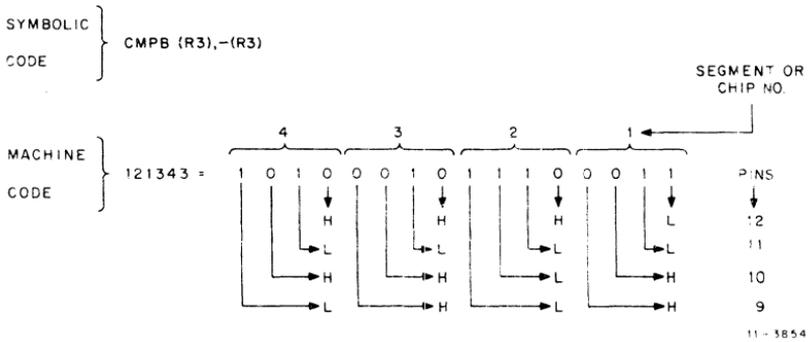

Figure 3-1 MRV11-AA Data Format
**3.3.2.2 Word Format** – Each PROM word, when read by the processor, is stored in four 4-bit slices in four separate PROMs. Each word is simultaneously addressed and produces its respective 4-bit portion of the 16-bit word that is read. For example, consider the CMPB instruction shown in Figure 3-1. Its machine code, using the addressing modes shown, is 1213438 or 10100010111000112. The binary bits are stored in PROMs numbered from 1 to 4. Output pins, as indicated, will yield the read data bits for this instruction when addressed.